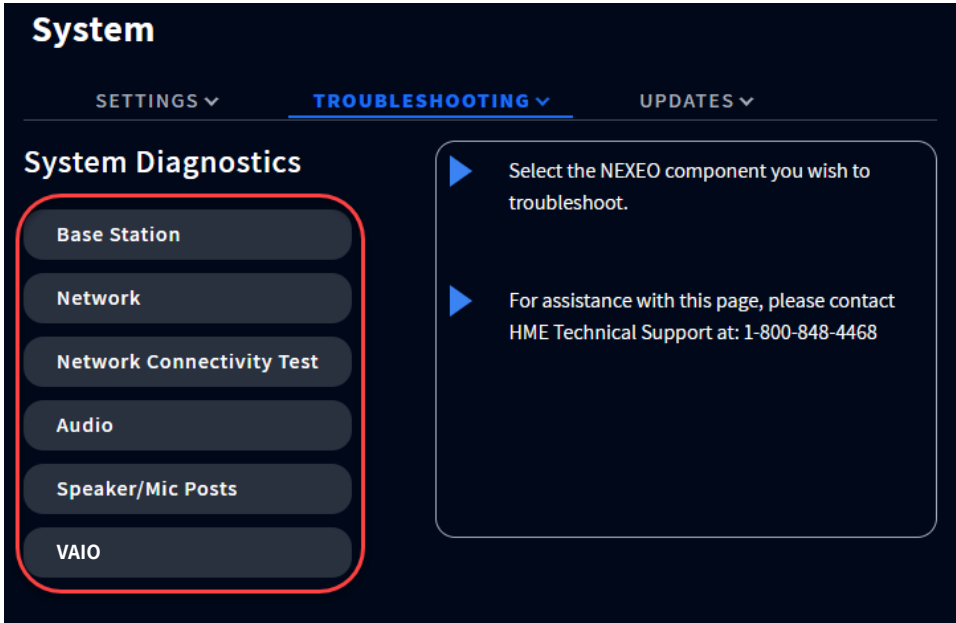
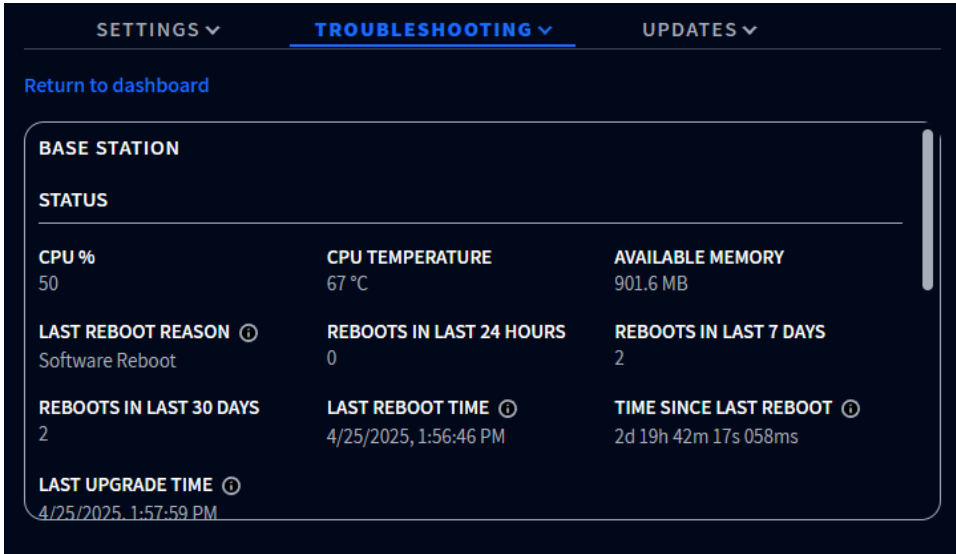

Fig. 5.5
Fig. 5.6
**System Diagnostics:** This provides you a breakout of your system components and feedback on the health of your system. Click on Base Station, Network, Audio, Speaker/Mic Posts, or VAIO for details. See Fig. 5.5 - 5.11 under “System Diagnostics continued.”
**System Diagnostics continued:** Fig. 5.6 - 5.11 gives you a preview of all five screens when each component option listed under System Diagnostics in Fig. 5.5 is selected (i.e., Base Station, Network, Network Connectivity Test, Audio, Speaker/Mic Posts, and VAIO).